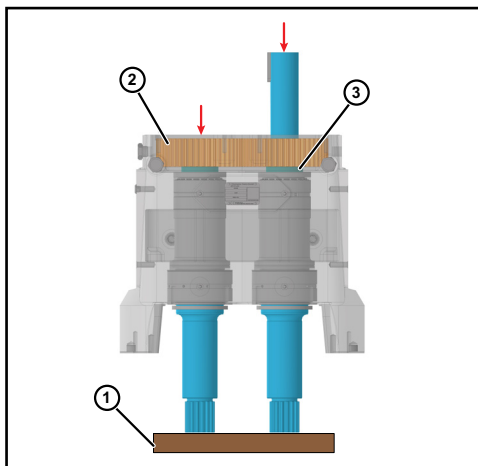

Figure 52 - Press Shafts from Gear Case
7. Place the gear case on an arbor press with the liquid end facing down. Protect the shaft ends with a wood or plastic block (1) and press the shafts out of the gear case, as shown in Figure 52.
9. Press out and discard the front bearing seals (2) from the front bearing retainers, as shown in Figure 52.